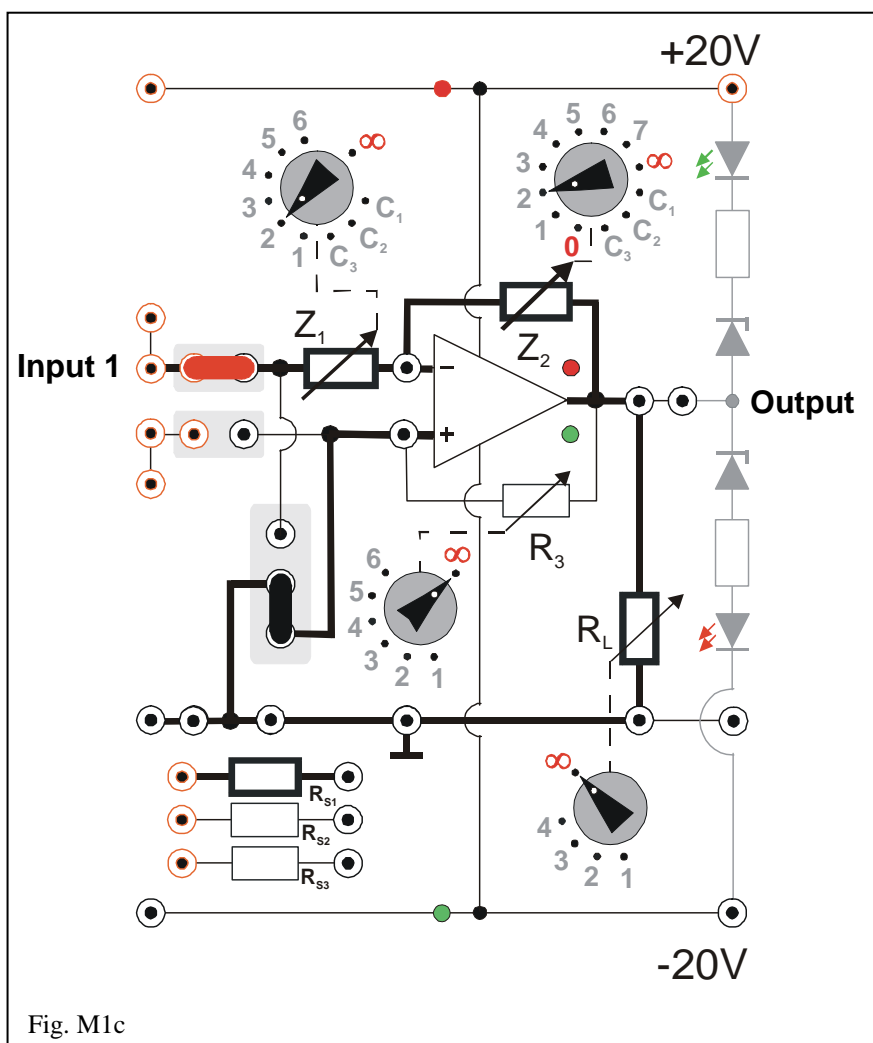

Fig. M1c
2. Set the switches Z_1 and Z_2 to the “2” position (Fig. M1c).